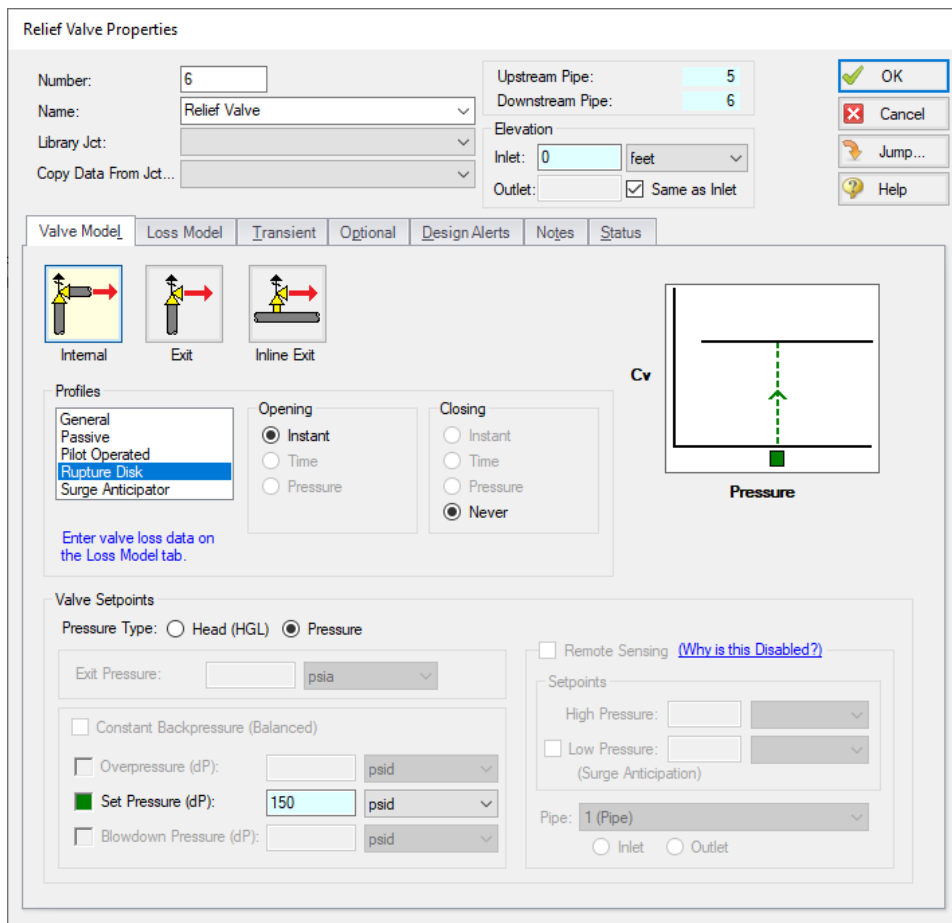

Figure 14: Inline Exit Rupture Disk Properties
3. In the Profiles list select Rupture Disk (Figure 14)